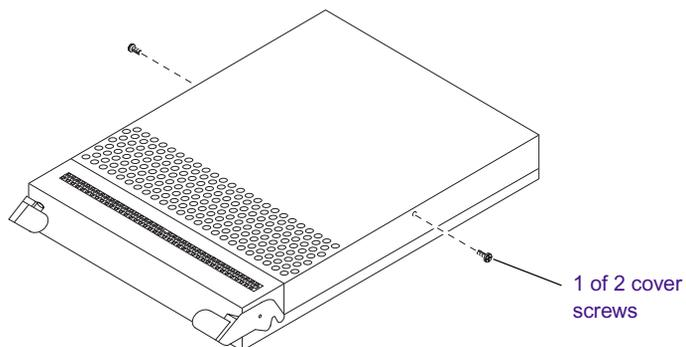

Figure 10 SCSI Bus Configuration Module Cover Screws
3. Remove the configuration module cover screws (see Figure 10).